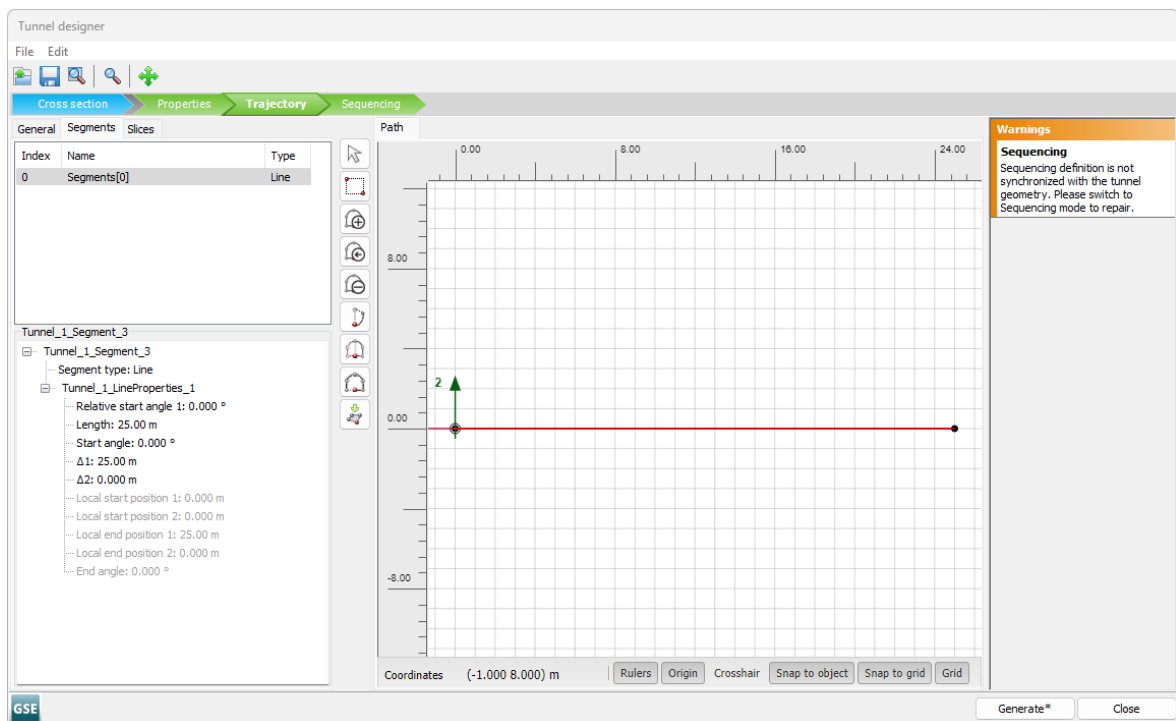

Figure 5-11: Trajectory tabsheet on Tunnel designer-Adding a trajectory segment
- 3 In the **Selection explorer** set the length to 25 (see Figure 5-11 (p. 94)).